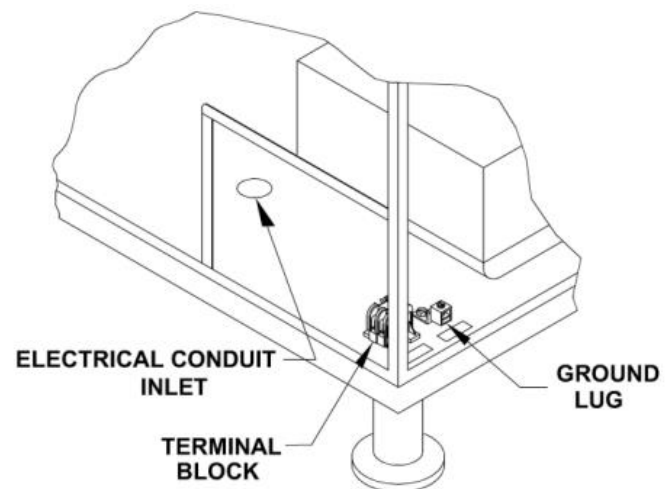

Figure 3-5
4. Refer to the connection diagram in Figure 3-5 and connect the wires to the terminal block and ground connector accordingly.